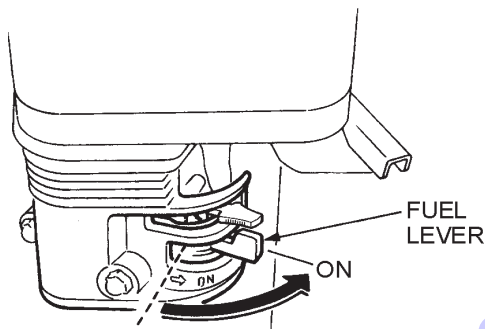

Figure 7. Engine Fuel Valve Lever (ON Position)
1. Place the engine **fuel valve lever** (Figure 7) to the "ON" position.